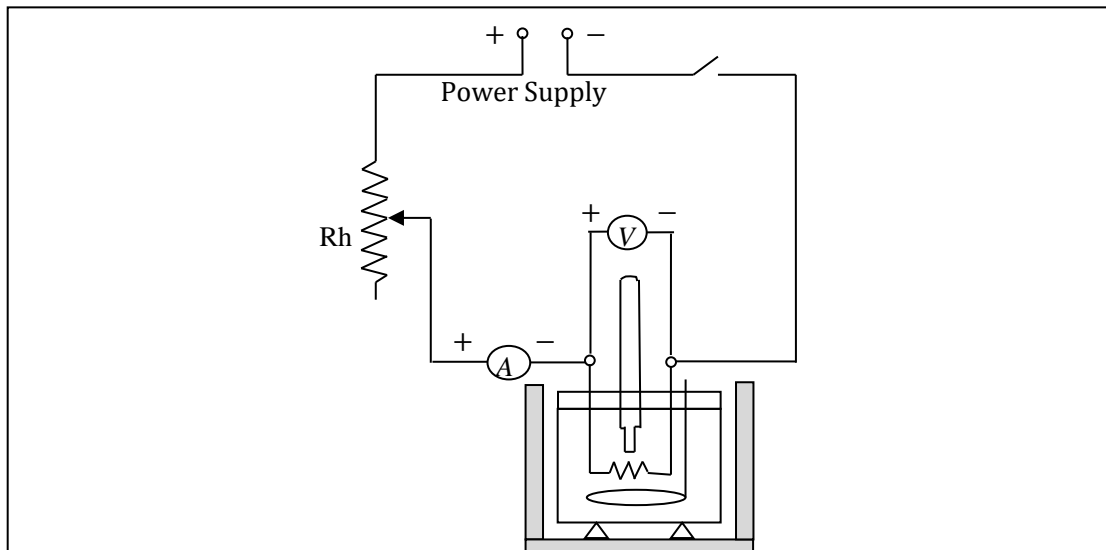

Fig. 8.1: Experimental setup for measuring the mechanical equivalent of heat
Theory: The mechanical equivalent of heat J is the amount of electrical energy required to generate one calorie of heat. If E volt be the potential difference across a conducting coil (Fig. 8.1) and i ampere be the current flowing through the coil for t seconds, then the electrical energy in the coil is Eit . If this energy is converted into heat H (calories) then the mechanical equivalent of heat J is
2. Pour water into the calorimeter which is just enough to dip the heating coil and the bulb of the thermometer. Then measure the total mass (m_2) of the calorimeter, stirrer and water. Calculate the mass (M) of water.
4. Complete the circuit as shown in Fig.8.1. Switch on the circuit temporarily and adjust the control knob of the power supply until the current is about 2 amperes. Then switch off the circuit and stir the water until a steady temperature is shown by the thermometer. Record this temperature as initial temperature.